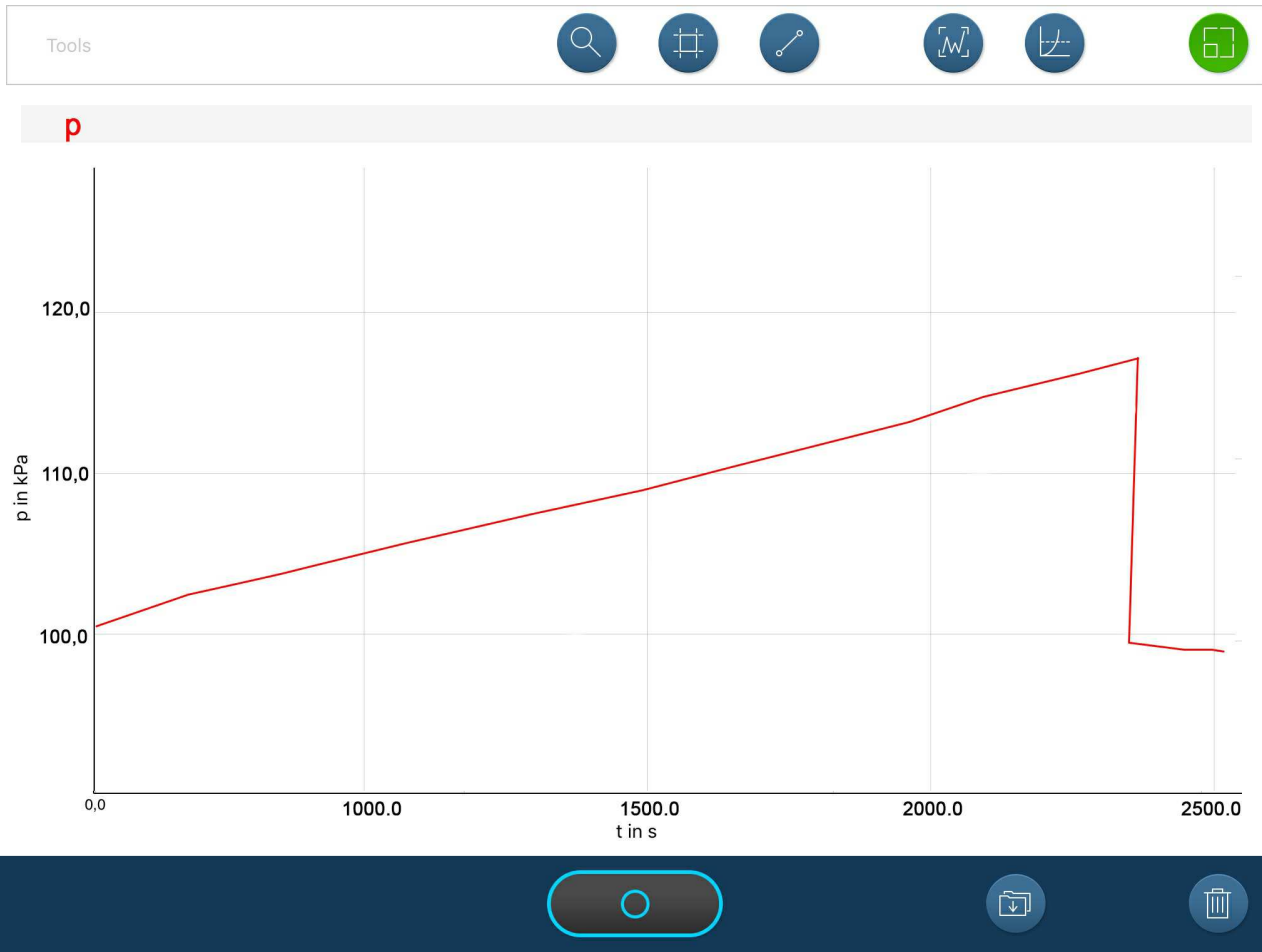

Fig. 3: Measurement result at room temperature
- **Experiment 1 (normal conditions):** The curve rises significantly. After approximately 40 minutes, at a pressure of approximately 1150 hPa, the rubber stopper was pushed out of the Erlenmeyer flask (Fig. 3).